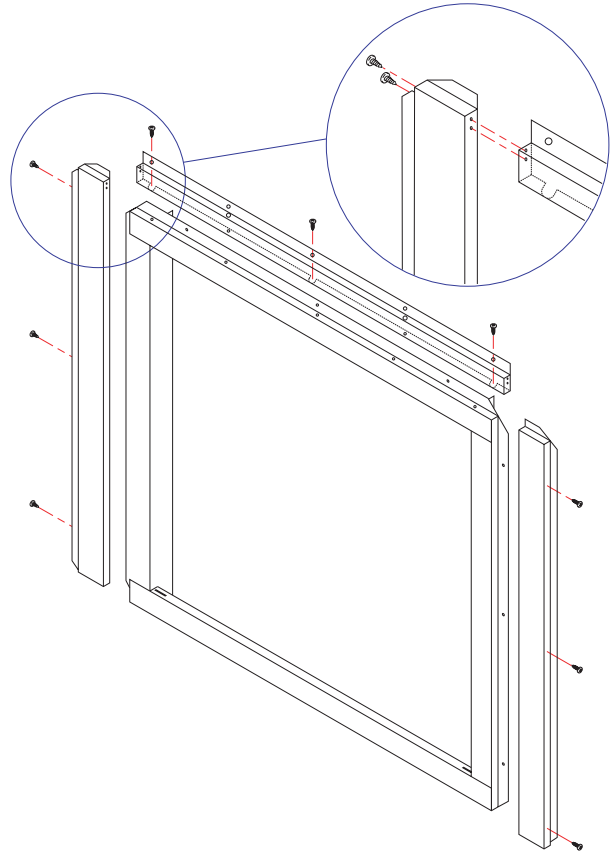

Figure 29 - Front Face Extension, Model CD32M Only
1. Remove existing screws from front face assembly as shown in Figure 29.
2. Align holes on top face extension with holes on top side of front face assembly and secure with screws previously removed (see Figure 29).
3. Align holes on right face extension with holes on right side of front face assembly and secure with screws previously removed (see Figure 29). Do the same for left side.
4. Secure top face extension with left and right face extensions with two sheet metal screws (see Figure 29).